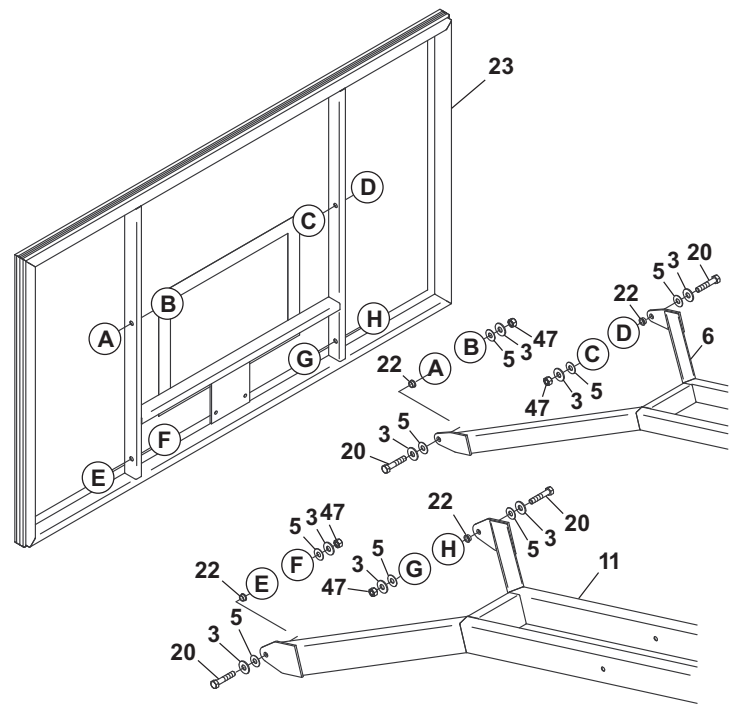

Figure 10
14. With at least three capable people, raise the backboard assembly up and have the fourth attach Lower Board Arms to lower mounting holes on backboard using two bolts (#20), two step bushings (#22), (shipped already installed), four plastic washers (#5), four flat washers (#3) and two thin locknuts (#47). See Figure 10.
15. Attach Upper Board Arms to upper mounting holes on backboard using two bolts (#20), two step bushings (#22) (shipped already installed), four plastic washers (#5), four flat washers (#3) and two thin locknuts (#47). See Figure 10.